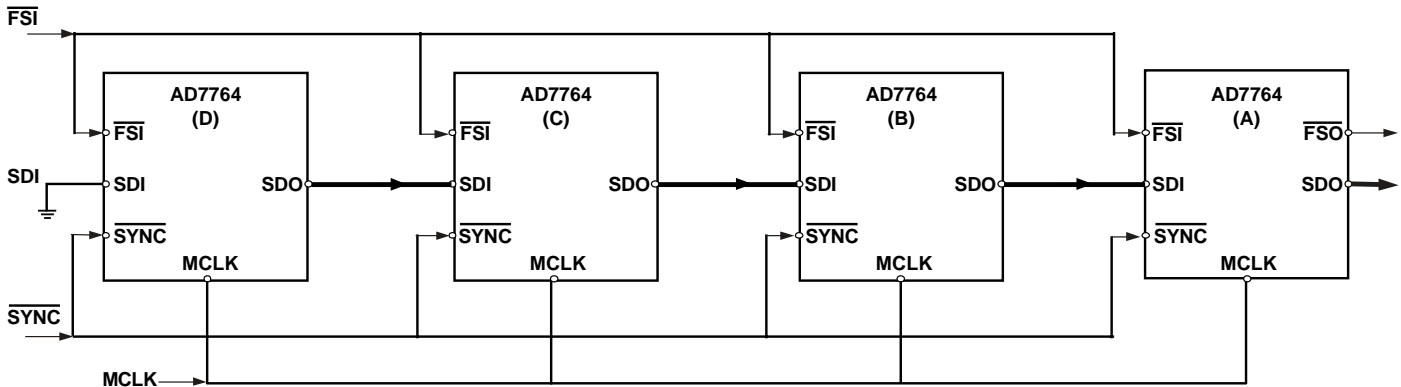

Figure 15. Daisy Chaining 4xAD7764 devices in decimate by 128 mode using a 40Mhz MCLK signal.
The block diagram in Figure 15 shows the way in which devices must be connected in order to achieve daisy chain functionality. Figure 15 shows four AD7764 devices daisy chained together with a common MCLK signal applied, this can only work in decimate by 128 or 256 modes.
The SDO line of AD7764 (A) provides the output data from the chain of AD7764 converters. The last device in the chain (AD7764(D) in Figure 15) will have its Serial Data In (SDI) pin connected to ground. All the devices in the chain must use common MCLK and SYNC signals.